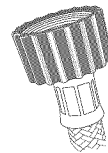

Fig.5 Faucet end of hose (straight end)
- Install hoses with the straight end (with filters) fitted to the faucets (refer to Fig.5).